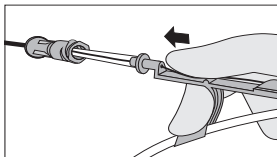

Figure 5
- Using thumb, retract guidewire tip. Place tip of Arrow Advancer – with guidewire retracted – into introducer needle (refer to Figure 5).